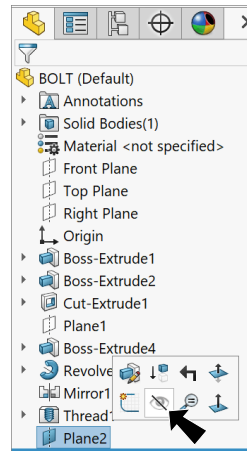

Fig. 45
Step 1. **Hide Plane2** . To hide, click **Plane1**  in the graphics area and **Hide**  on the context toolbar, **Fig. 45**.